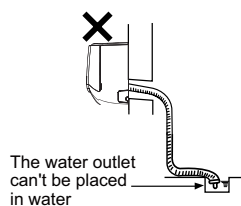

Fig.27
(3) The water outlet can't be placed in water in order to drain smoothly. (As show in Fig.27)